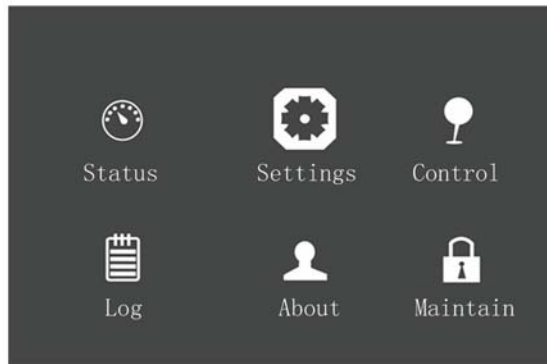

Figure 5-22 Main menu
1. After switching the UPS on, access the main menu screen and press the or key to move the cursor to select 'Settings'. See Figure 5-22.